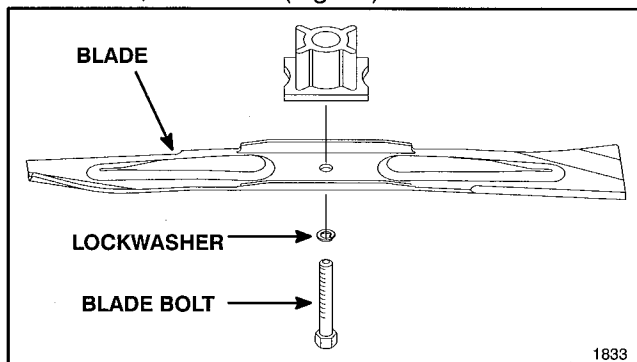

Figure 15
5. **REMOVING BLADE**—Grasp end of blade using a rag or thickly padded glove. Remove blade bolt, lockwasher, and blade (Fig. 15).